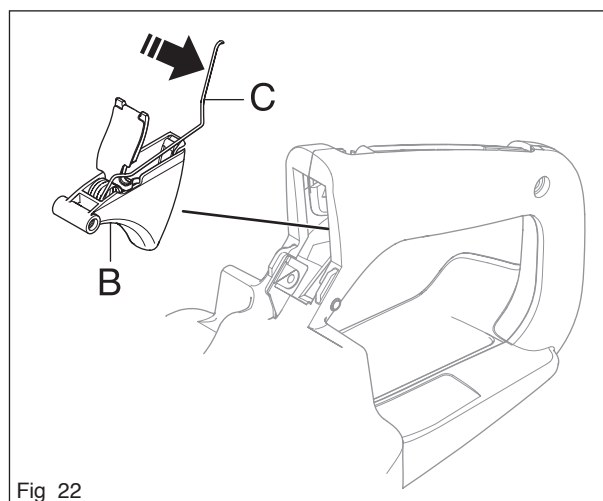

Fig 22
Fit the throttle control (B) and spring (C) (see figure 22).